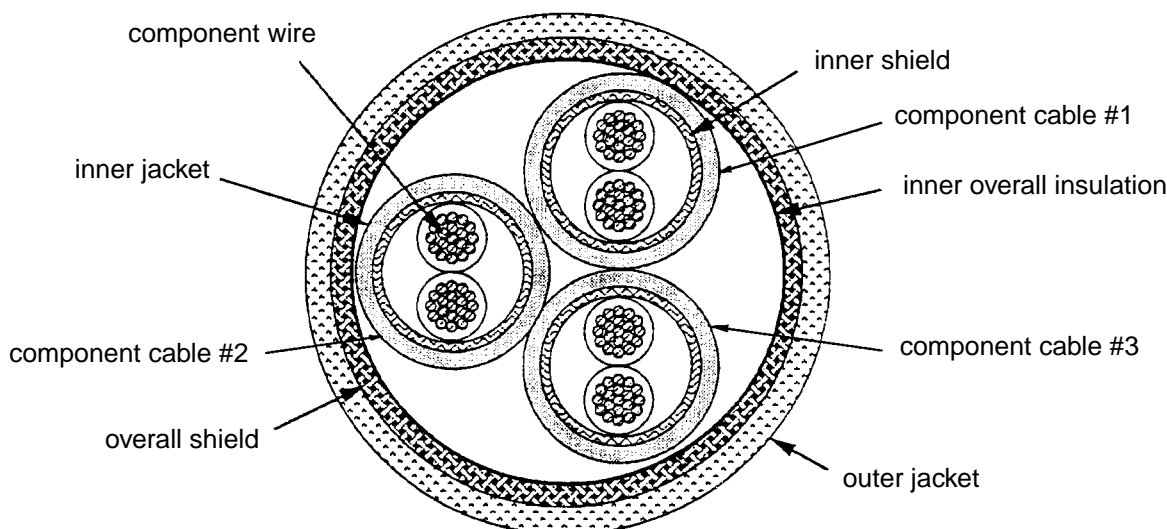

**Figure 1 - Four Conductor, Double Shielded, Jacketed Cable**
- 5.1.3 Refer to Table 1 for typical termination configurations and type numbers. Refer to Figure 1, Figure 2 and Figure 3 for examples of special shield termination applications.